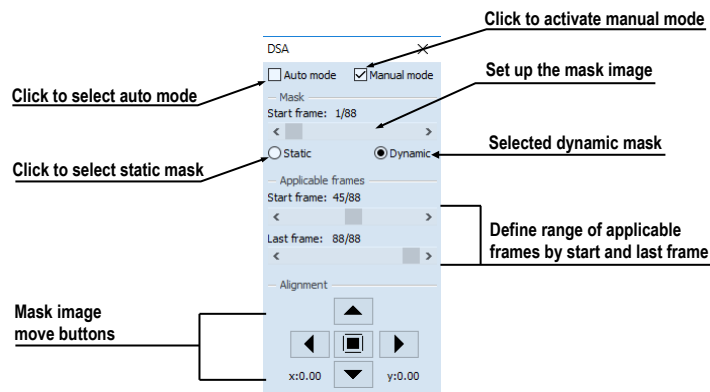

Figure 177 – DSA tool
2. Select the **Manual mode** in the **DSA** tool (see Figure 177).